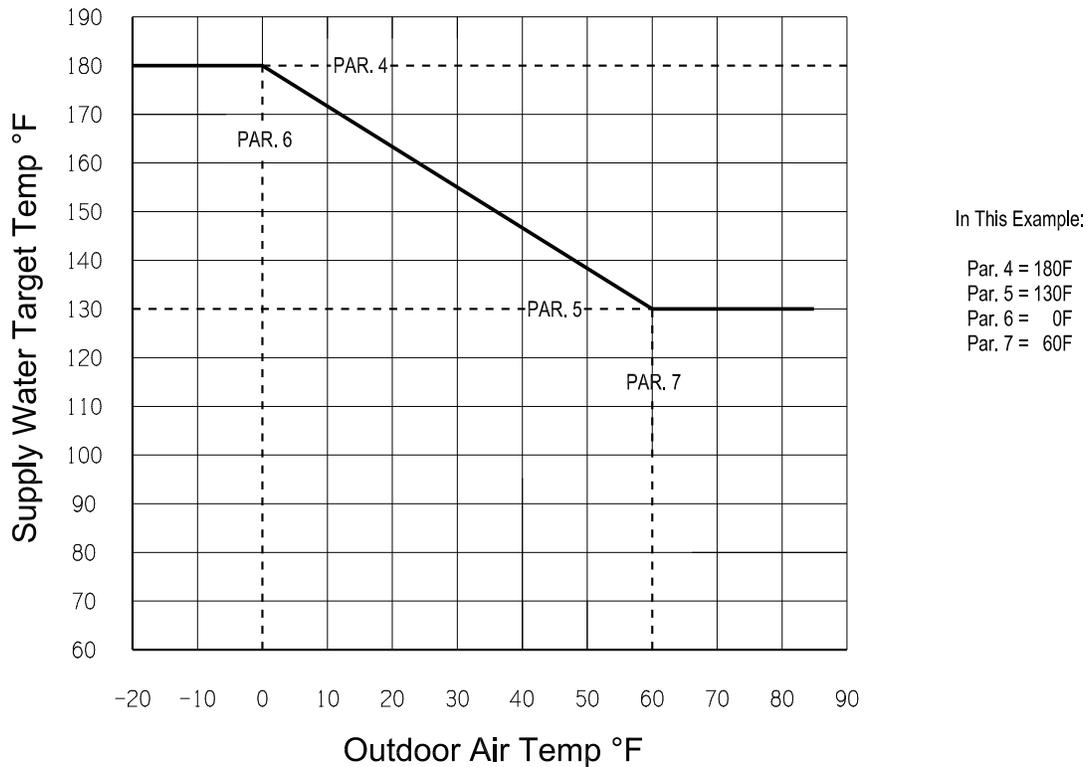

Figure 11.4: Outdoor Reset Curve
- 4) If an outdoor sensor is installed, the boiler will automatically adjust the heating zone set point temperature based on the outdoor reset curve in Figure 11.4. The maximum set point is defined by parameter 4 (factory set to 180°F) when the outdoor temperature is 0°F or below. The minimum set point temperature shown is 130°F when the outdoor temperature is also 60°F or above. As the outdoor temperature falls, the supply water target temperature increases. For example, if the outdoor air temperature is 30°F, the set point temperature for the supply water is 155°F.
- e) Once the flame stabilization period has ended, the MCBA allows the burner to modulate. The actual firing rate is dependent upon the measured current and recent differences between the set point temperature and the supply temperature. If an outdoor sensor is connected to the control module and the boiler is responding to a call for heat, the set point temperature will be determined by the outdoor reset curve shown in Figure 11.4.